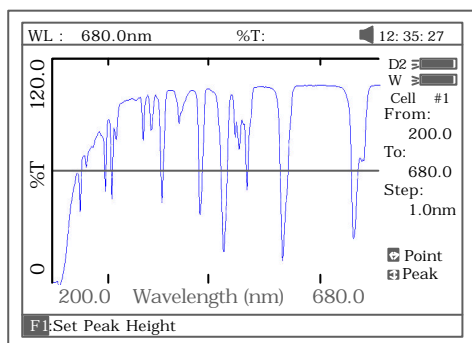

Fig 49
- 6 Press **[F3]** to search the Abs/%T value of the scan. There are two ways for you to search (Fig 49).